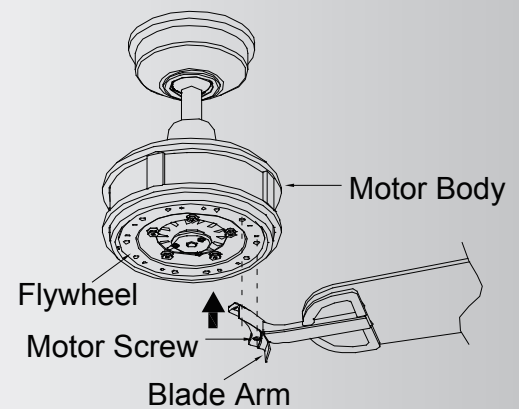

Fig. 19
Step 2. Fasten blade assembly to the holes located on the bottom of the flywheel. Tighten the two "pre-installed" motor screws in the blade arm. Repeat steps for the remaining blades assemblies. (Fig. 19)